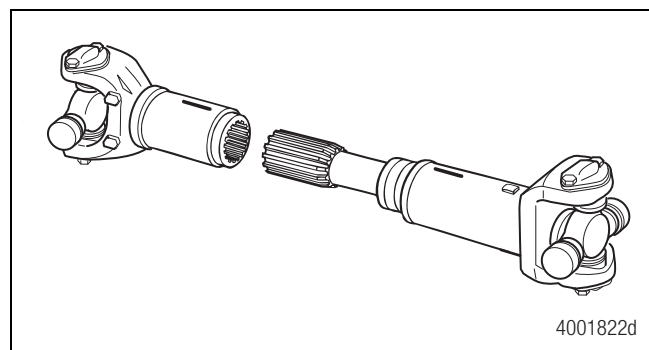

Figure 7.3
3. Pull the slip yoke and slip shaft sections apart. Figure 7.3.